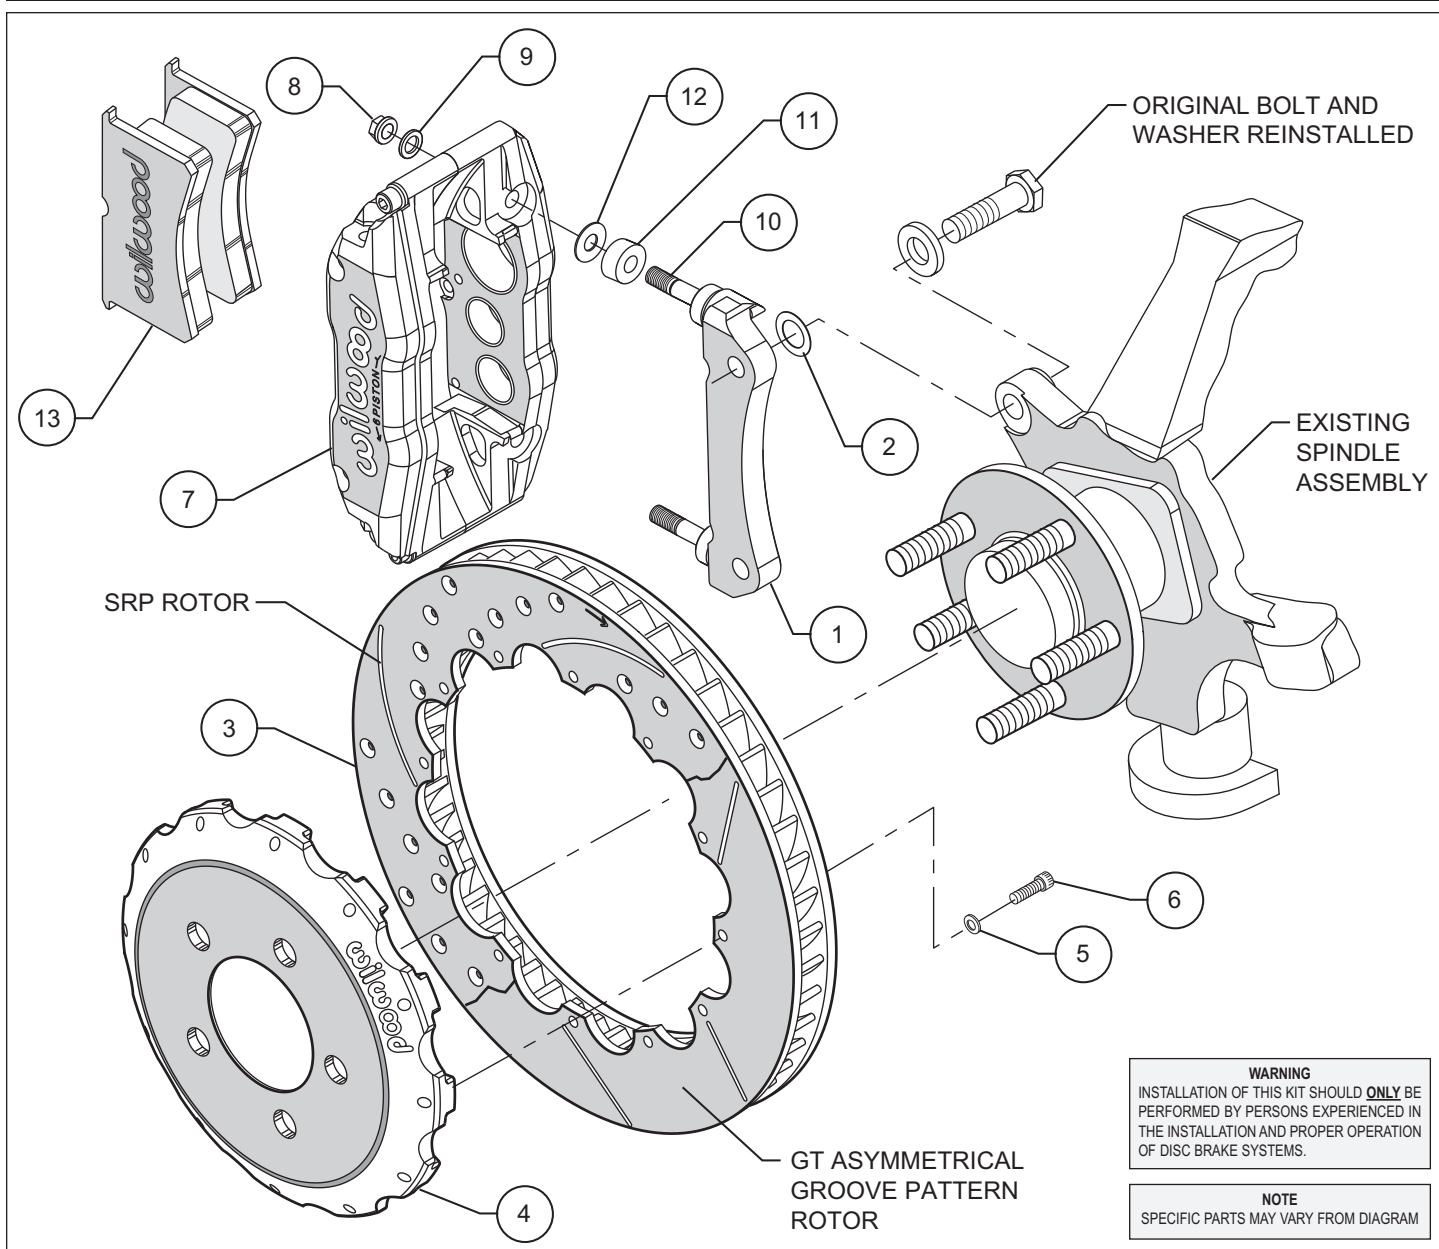
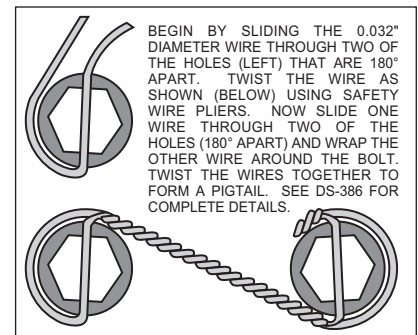

Figure 1. Typical Installation Configuration
Figure 3. Safety Wire Diagram
- Assemble the rotor (3) to the hat (4) with the bolts (6) and washers (5) as indicated in the configuration pictured in Figure 1. Be sure all bolts thread in smoothly and are snug. Then, torque all bolts in an alternating sequence to 85 **in-lbs**. The rotor mounting bolts (6) must be lockwired using standard 0.032 inch diameter stainless steel safety wire as shown in Figure 3. Please refer to Wilwood's data sheet DS-386 (available at www.wilwood.com/pdf/ds386.pdf) for complete safety wire installation instructions.
- **NOTE:** Please reference the caution statement at the beginning of the assembly instructions. Install spacer (11) and one shim (12) over each stud (10) on the radial mount bracket (1). Slide the caliper (7) in place over the studs and rotors, then install the washer (9) and lock nut (8) to hold the caliper in place. The caliper bleed screws should be pointing up. Snug the lock nuts (8) and check that the rotor (3) is centered in the caliper (7). Add or subtract .015" shims (2) as necessary between the mount bracket and the spindle to center the caliper.
- Remove the caliper center bridge pad retainer bolt, nut, and tube from the caliper. Slide the brake pads (13) into place. They should install easily without interference. Check that the outside radius of the brake pad is aligned with the outside diameter radius of the rotor face. Add or subtract .035 shims (12) between the caliper and mount bracket to gain the proper alignment. Reinstall the center bridge pad retainer tube, bolt, and lock nut. The locknut should be snug without play in the bolt or tube. Be cautious not to over tighten.
- Once all clearances have been checked, remove the wheel, caliper, hat, and rotor from the spindle and hub. Secure the caliper mounting bracket (1) to the spindle using red *Loctite*® 271. Torque the bolts to 65 ft-lbs. Reinstall the hat and rotor assembly and again use several lug nuts to hold it in place. Lubricate caliper mounting studs and nuts with lightweight oil, reinstall the caliper, torque the caliper nuts (8) to 30-35 ft-lbs.